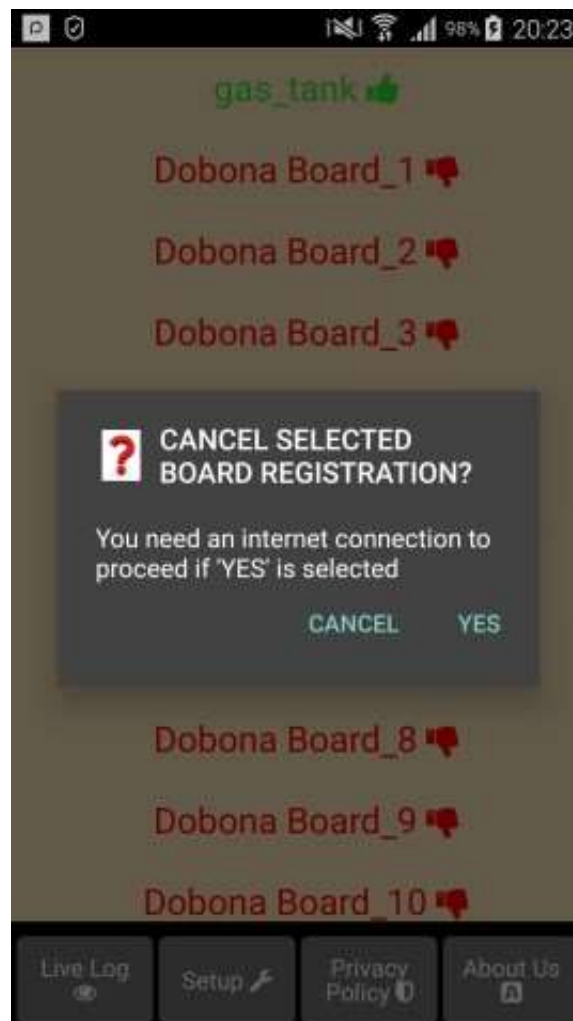

Fig 10.
- Press on the green line of the board name (gas_tank in our case) □ The below screen is displayed (Fig.10)